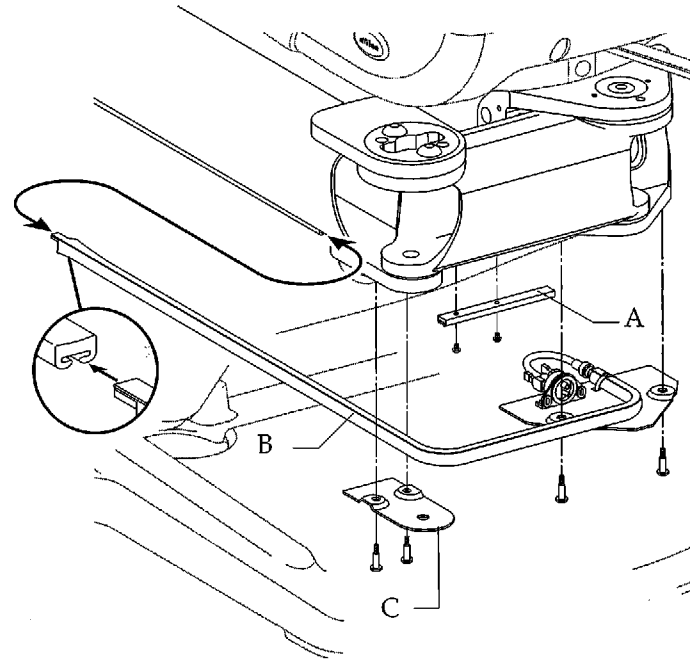

Figure 46. Mounting the limit switch actuator to the support link. (A) tubing guide; (B) limit switch tubing; (C) small actuator plate
4. Mount the limit switch actuator to the support link with two stand-off screws (see Figure 46).